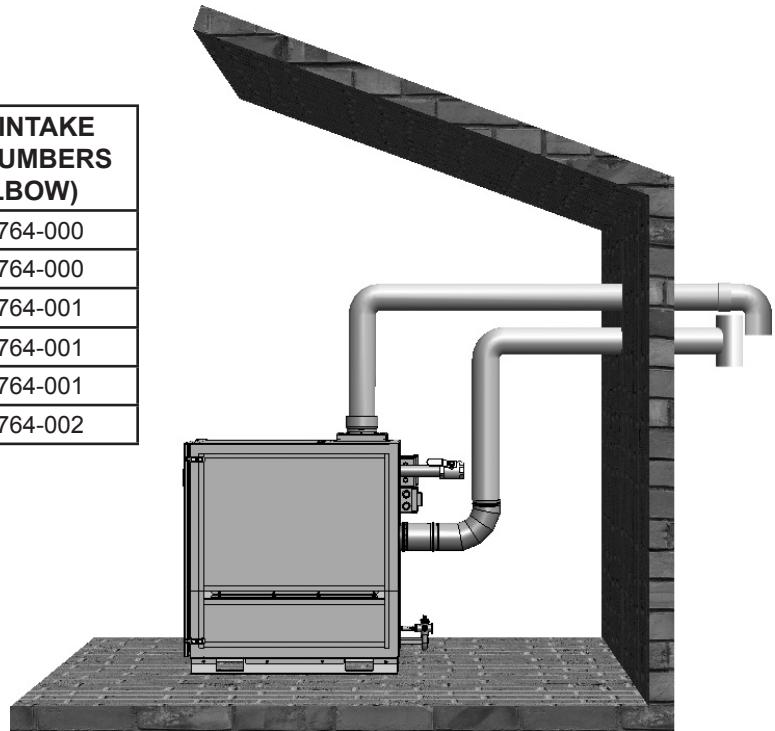

FIGURE 27. DIRECT VENT HORIZONTAL
- Horizontal Direct Vent** - using TWT to exhaust flue products and PVC piping to bring combustion air to the boiler from the outside. See Figure 27 on Page 29 and Figure 30 on Page 30.